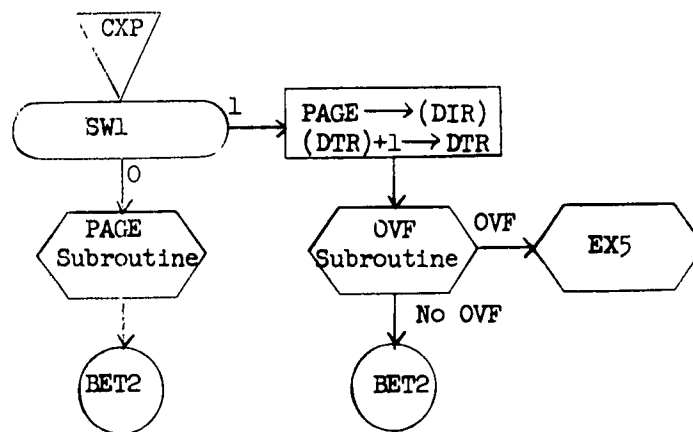

Figure 7.11 CXP
7.2.3.8 CXP PAGE COMMAND (Figure 7.11)